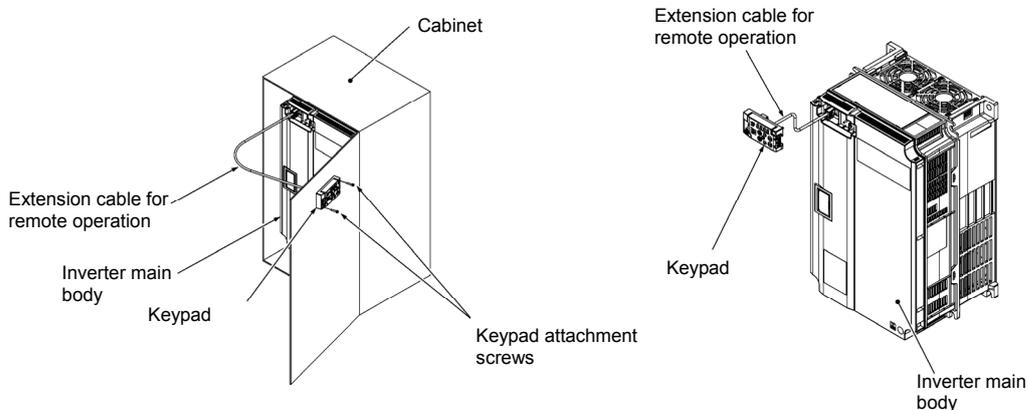

Figure 2.3-2 Attaching the Keypad on the Cabinet
- Attach to the cabinet (refer to figure 2.3-2)